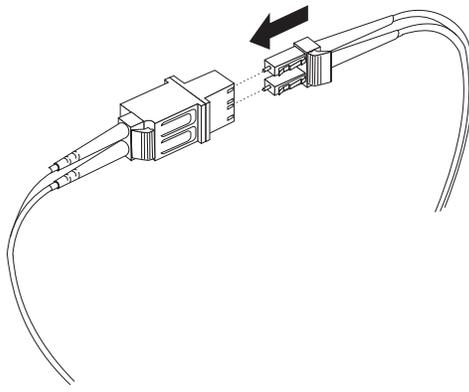

Figure 36. Connecting an LC-LC cable into the LC-SC cable adapter
4. Carefully insert the other end of the LC-LC cable into the LC connector end of the LC-SC cable adapter as shown in Figure 36. Push in the connector until it clicks into place.